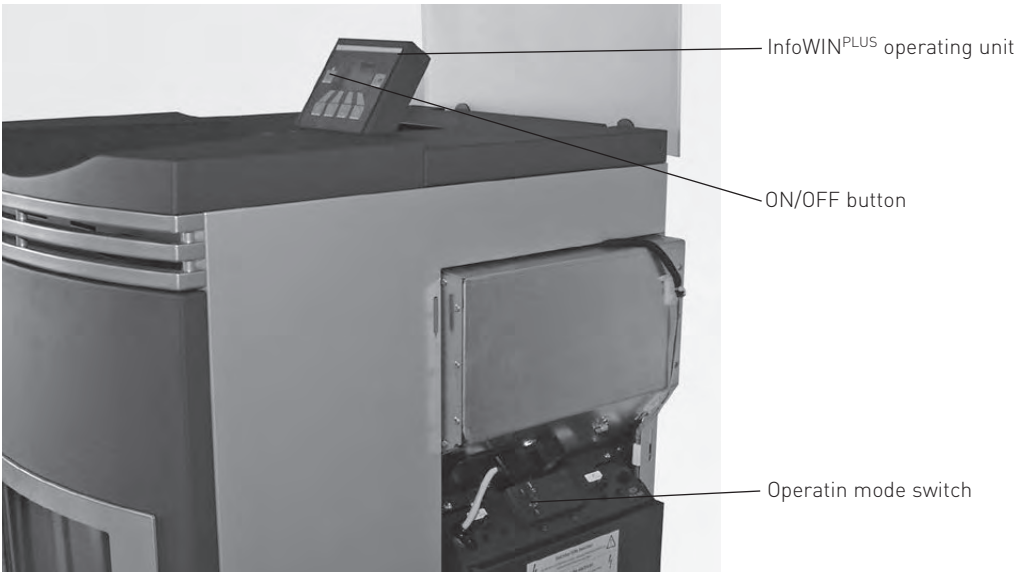

Fig. 122 FireWIN with MES^{PLUS} system control
- 2. If the boiler has been out of service for an extended period during the summer months, press the ON/OFF button  on the InfoWIN^{PLUS} unit – Fig. 122.